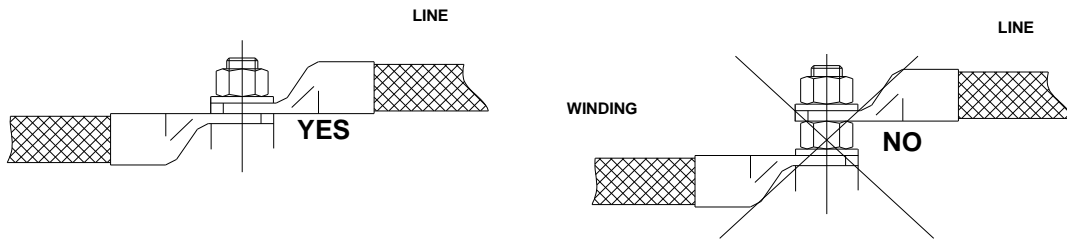

Fig. 6
**Fix the output cables to the generator clamps as shown in Figure 6:**